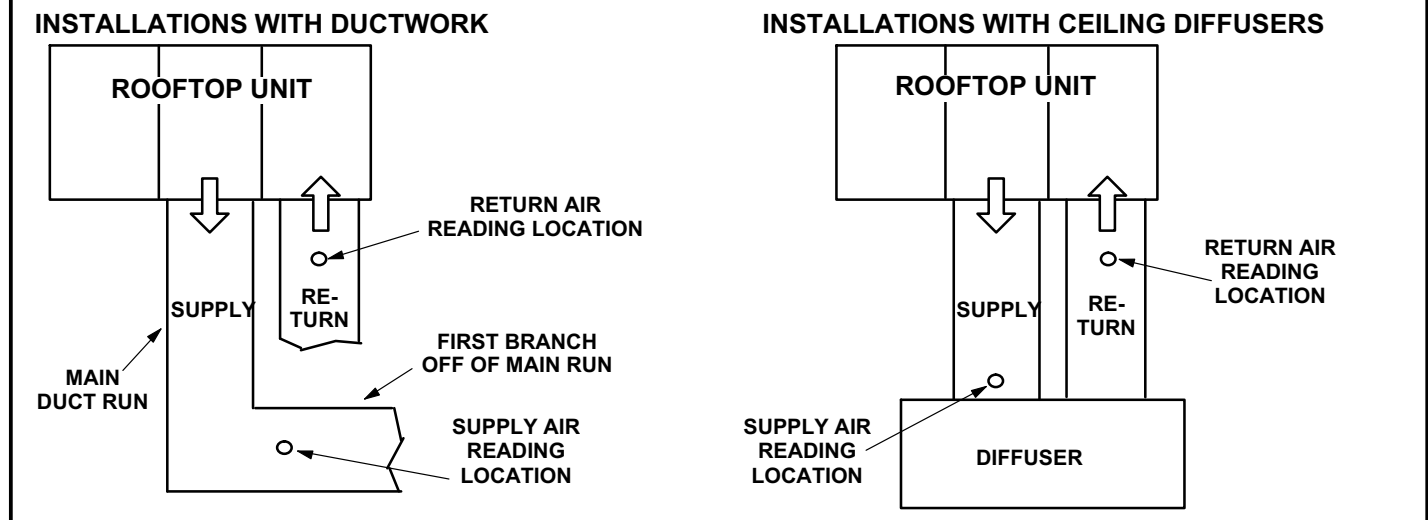

FIGURE 24
- 2- With all access panels in place, measure static pressure external to unit (from supply to return). Blower performance data is based on static pressure readings taken in locations shown in figure 24.